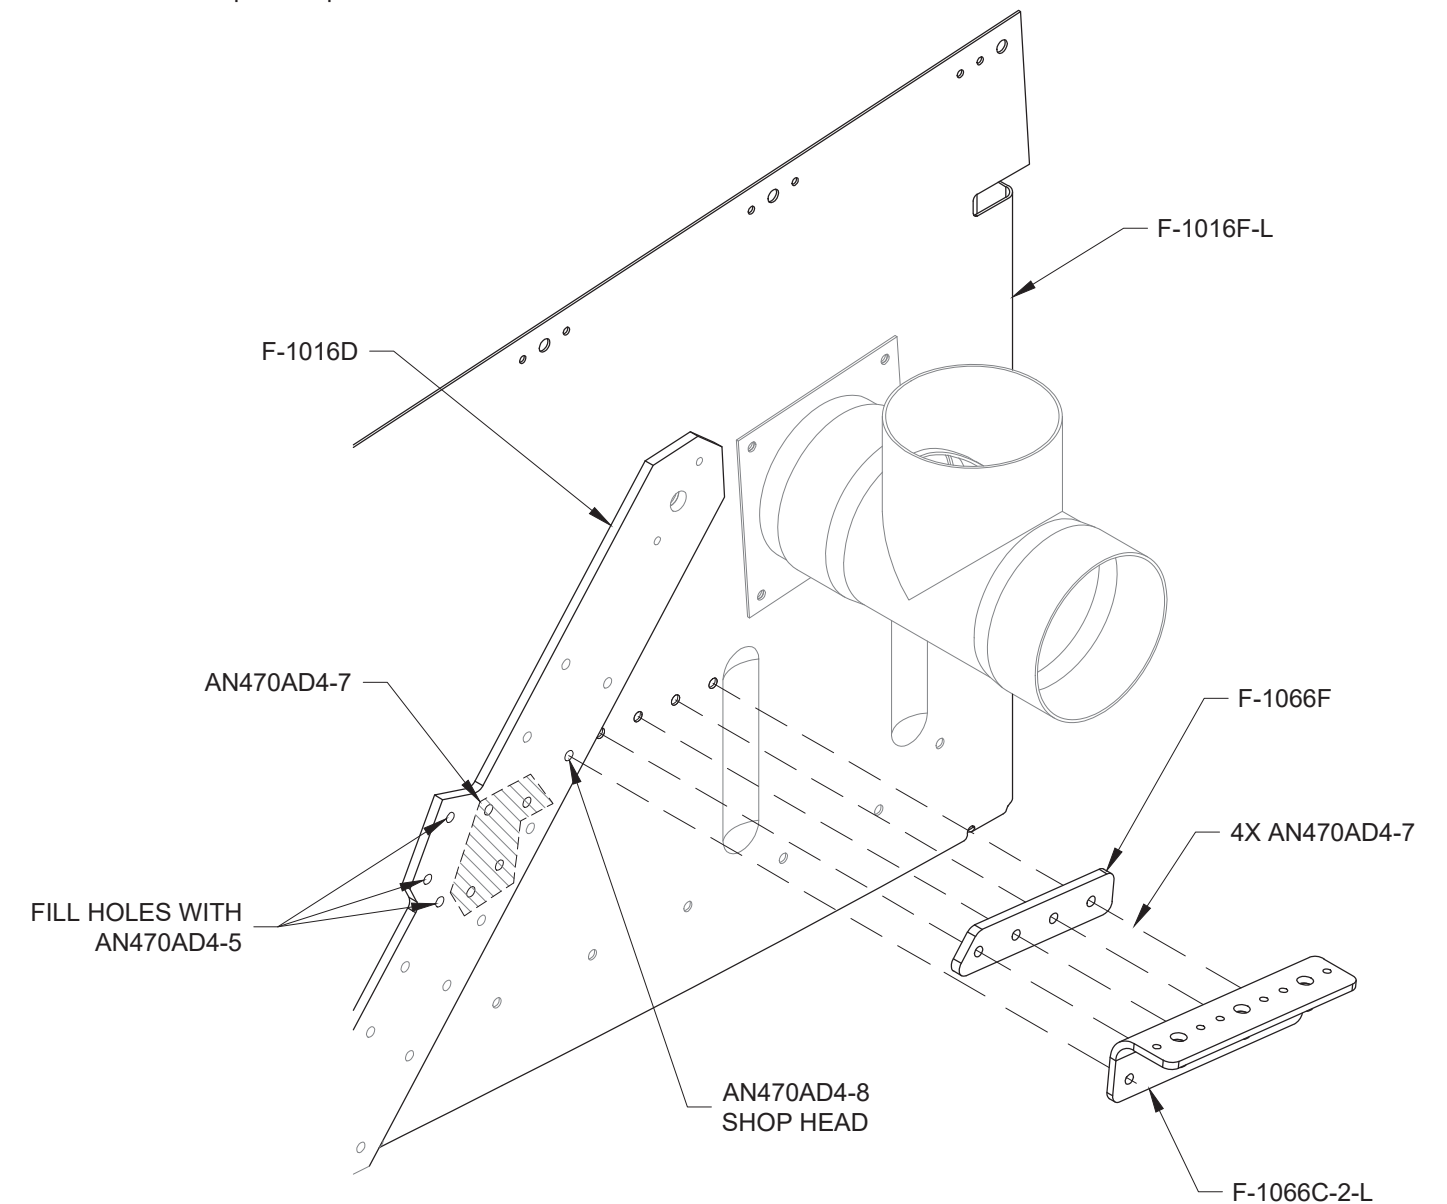

FIGURE 2: RIVET SHIM & ANGLE TO RIB
NOTE: Place the shop head on the inboard side for all rivets called out in Figure 2.
Step 7: Rivet the F-1066C-2-L and F-1066F to the F-1016F-L using the rivets called out in Figure 2.
Step 8: Rivet the F-1066C-2-L and the F-1016D to the F-1016F-L using the rivet called out in Figure 2.
Step 9: Rivet the empty holes in the F-1016D and F-1016F-L using the rivets called out in Figure 2.